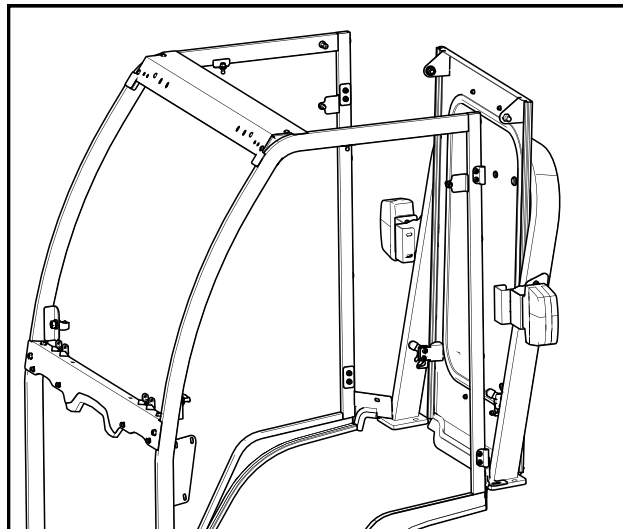

Fig. 9.1 (Rear Panel Installation)
- 9.1 Set the hard rear panel into position in front of the ROPS tubing and lean it backwards at the top so it rests in place temporarily. See Fig. 9.1